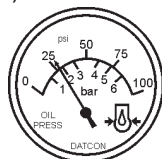

Figure 46. Oil Pressure Gauge
9. The engine oil pressure gauge (Figure 46) will indicate the oil pressure of the engine. Under normal operating conditions the oil pressure is approximately 28 to 85 psi. (193~586 kPa).